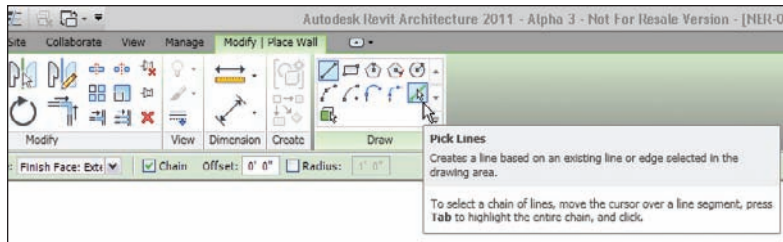

FIGURE 2.11 The Pick Lines icon from the Options bar lets you add a wall by using an offset from another object.
2. On the Draw panel, click the Pick Lines icon, as shown in Figure 2.11.